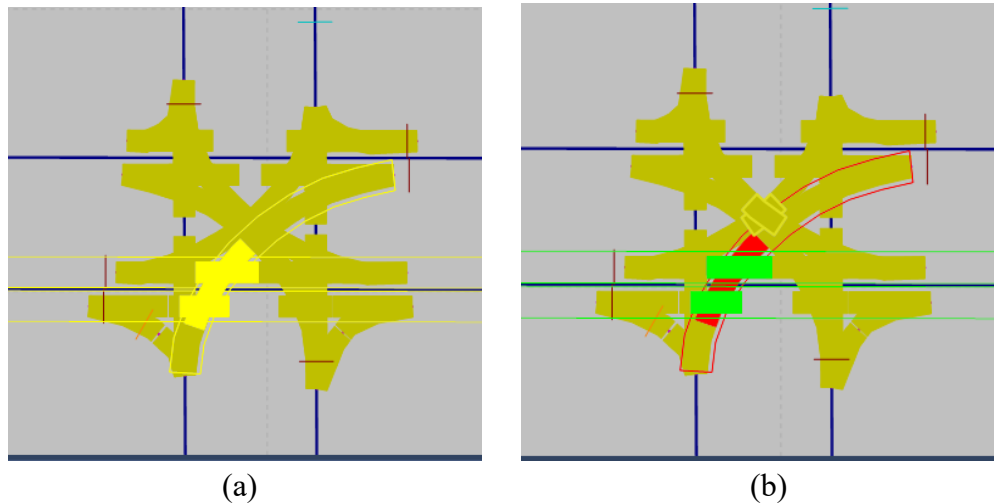

Figure 27: Buzz Blvd. and Burdell Dr. EB through with WB left: (a) conflict area highlighted, and (b) conflict movement priorities
- step iii. Left-click on one of the two conflicting movements of the conflict area you wish to define. Figure 27(a) highlights the Buzz Blvd. and Burdell Dr. intersection EB through conflict with the WB left.
step iv. Right-click on the highlighted conflict until the zone is correctly defined; the movement highlighted as green will have the right of way and the movement highlighted as red will yield. Figure 27(b) shows the EB through with priority over the WB left.